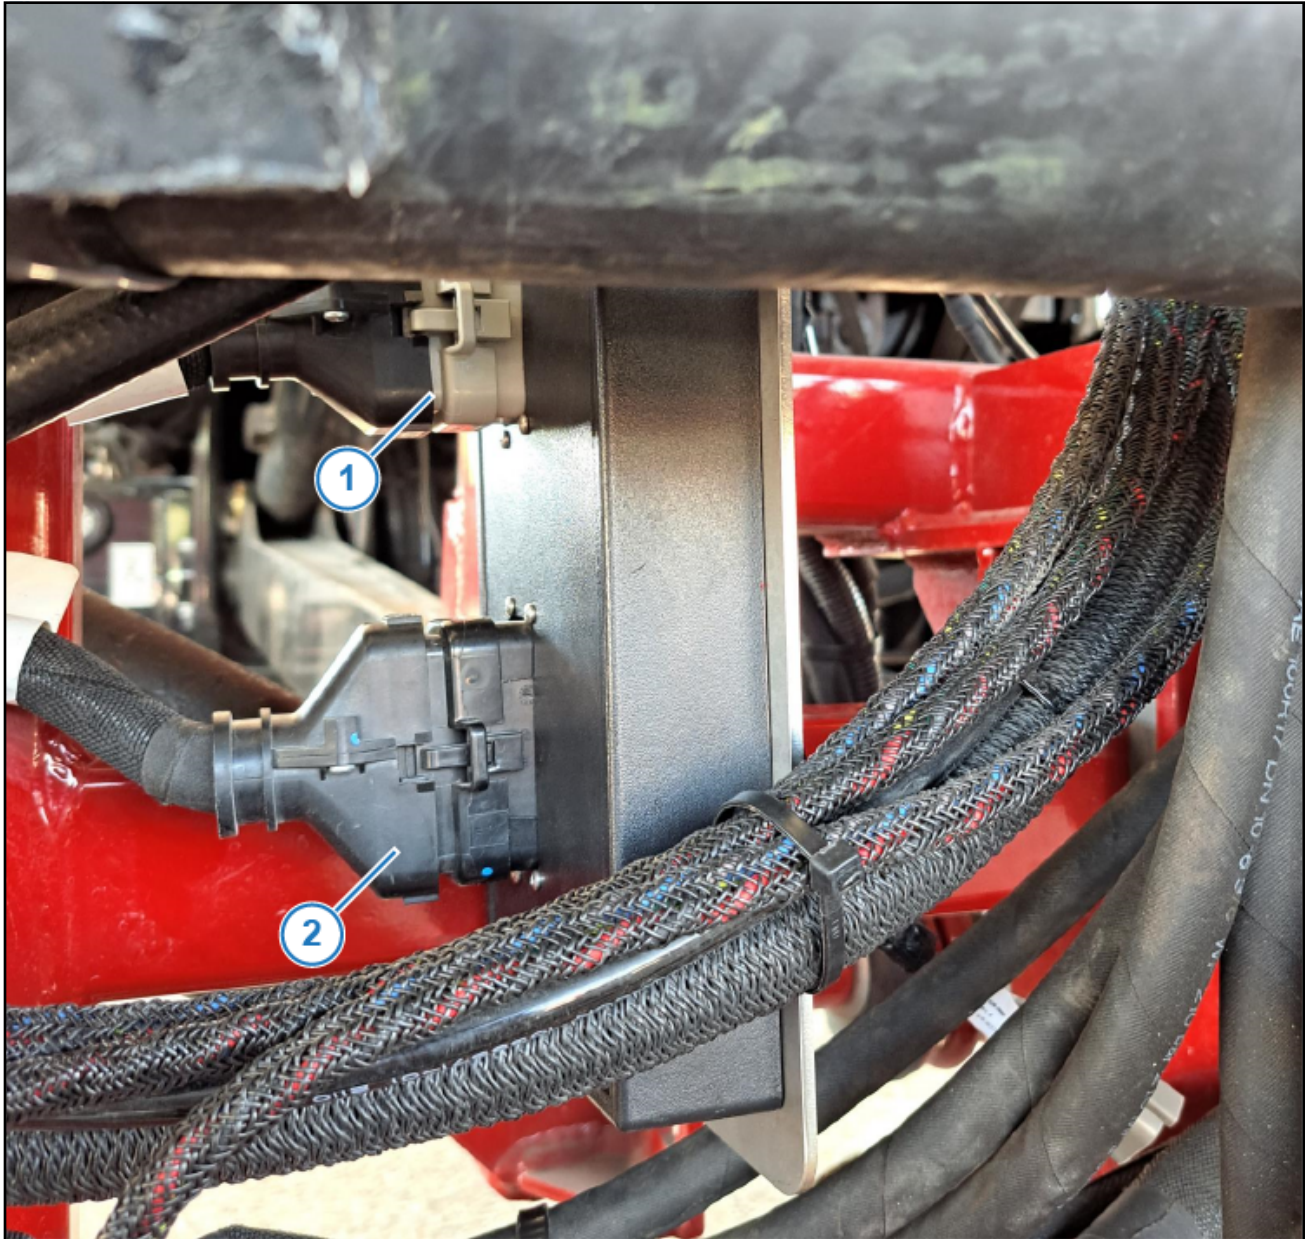

Figure 3: RCM Adapter Machine Harness Connections
4. Plug the machine J1 (Figure 3, Item 1) and J3 (Figure 3, Item 2) connectors into the RCM Adapter as shown.